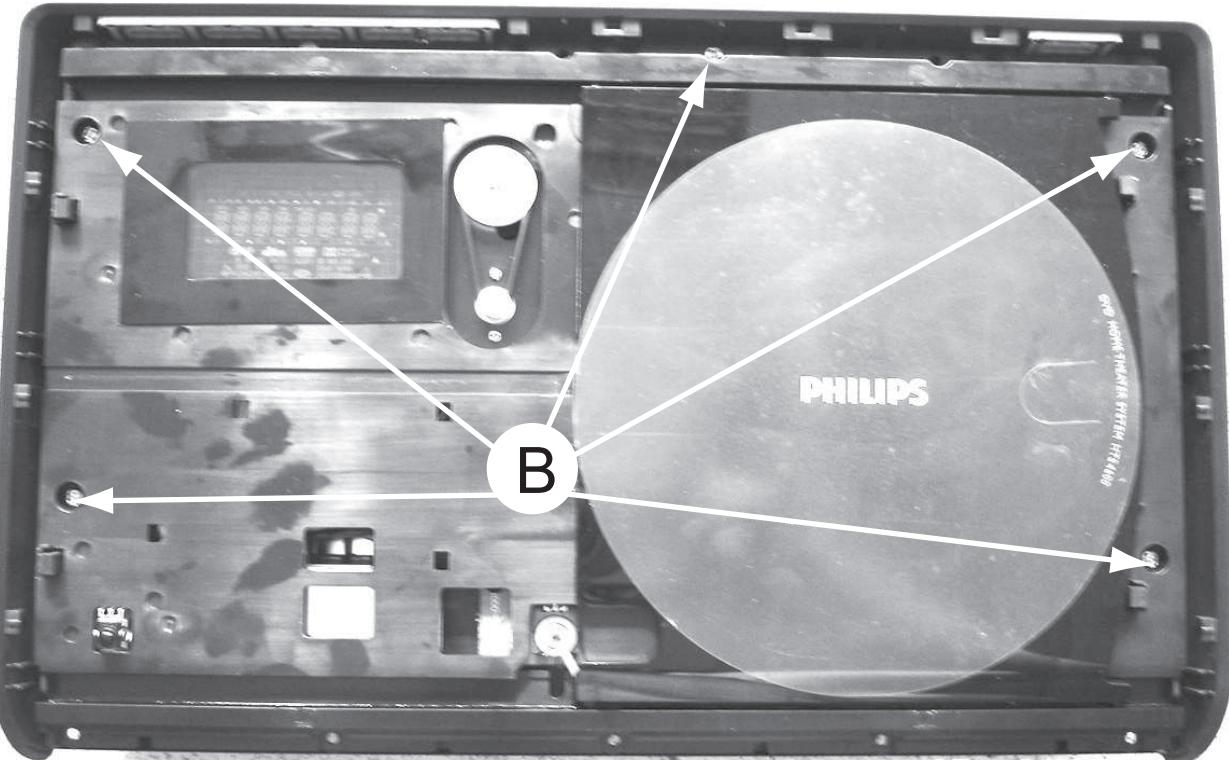

Figure 4
- 1) Loosen 5 screws "B" at the Middle Base as shown in figure 4.